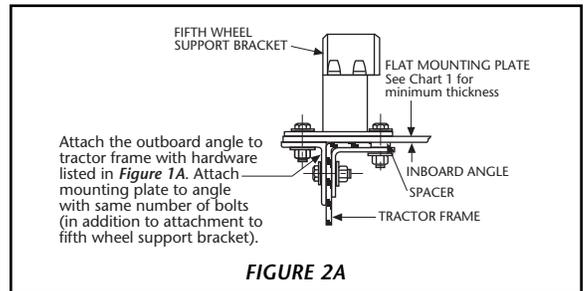

FIGURE 2A
Bracket with Mounting Base (See Figures 2A, 2B, and 2C):
2. In addition to the information given in *"Installation: General Recommendations,"* on page 1, follow the recommendations in *Figures 2A, 2B,* and *2C*.